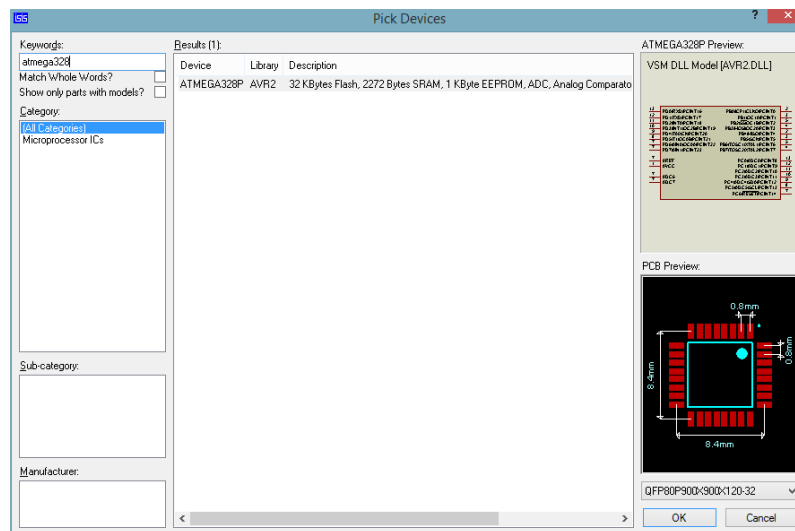

Figure 1.11 – Pick components & devices to use in the circuit
- After Clicking Pick devices menu as in figure 1.11 will appear on the screen. There is a keyword prompt which can refine your search. Write **ATmega328P** in keyword prompt and result window will display components having keyword of ATmega328P. **Double click ATmega328P** component in result window to add it to device list.
To add any component on root sheet, simply select that component from device window and click anywhere in the **root sheet** to place that component. To draw wire connection between two pins of any components, simply move mouse cursor to the tip of the pin and click. Then click on tip of the other pin you wanted to connect. Draw a circuit shown in figure 1.11 on Proteus root sheet by using components indicated above.